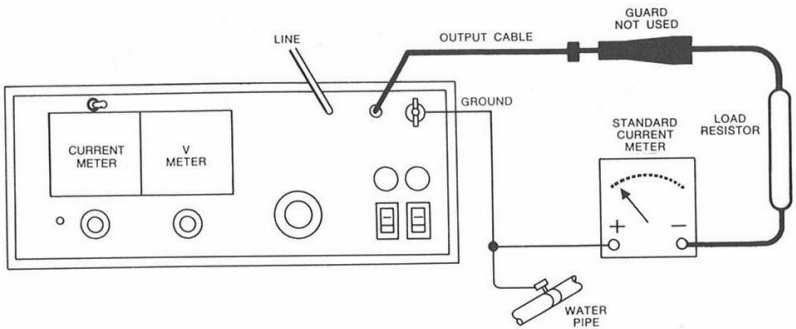

Figure 20: Connections for Calibration of the Current Meter
1. Make connections as shown in Figure 20 using 5 μA range on standard meter and 10-megohm resistor.